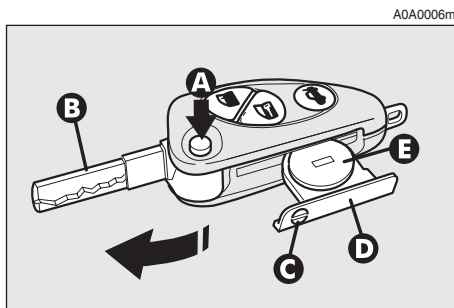

fig. 5
- press button (**A-fig. 5**) and move the metal insert (**B**) to the open position;